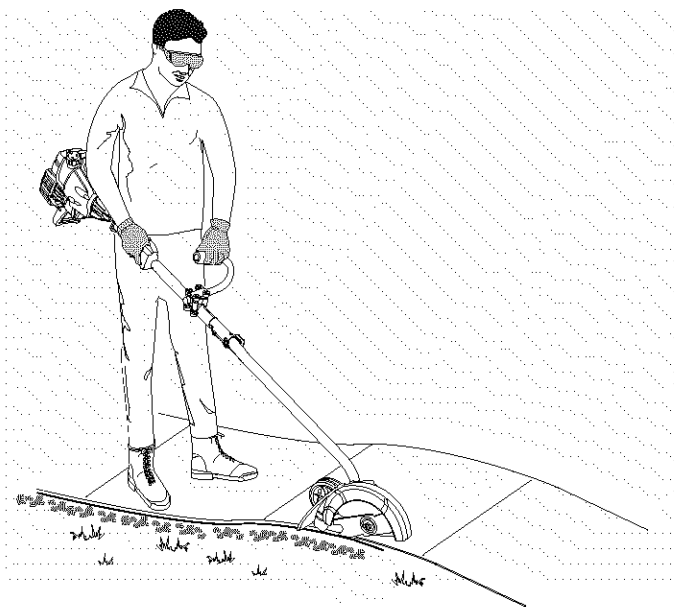

Fig. 15
Before operating the unit as an edger, stand in the operating position (Figs. 15). Check for the following:
- The edger wheel is adjusted for proper cut depth and the edger is positioned as shown in Fig. 15.